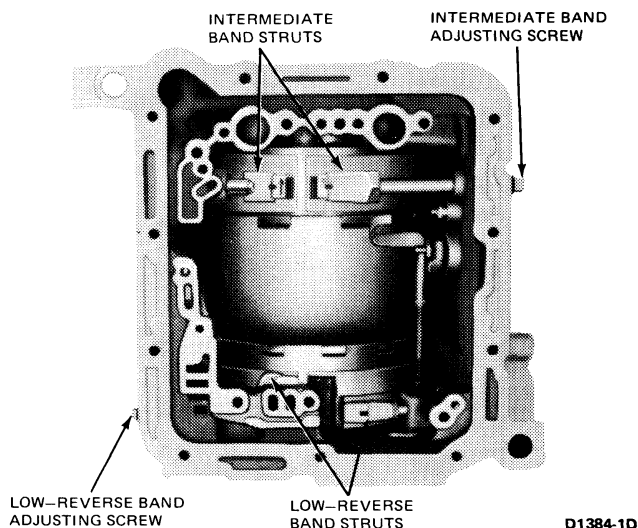

FIG. 15 Band Adjusting Screws and Struts—Typical
- Loosen the intermediate band adjusting screw (Fig. 15) and remove the intermediate band struts from the case. Loosen the low-reverse band adjusting screw and remove the low-reverse band struts.